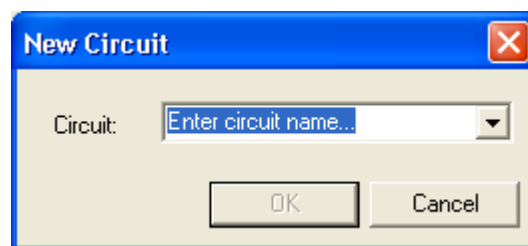

Figure 17 - New Circuit Dialog
2. Select the **New Circuit** option, the New Circuit dialog (Figure 17) appears.